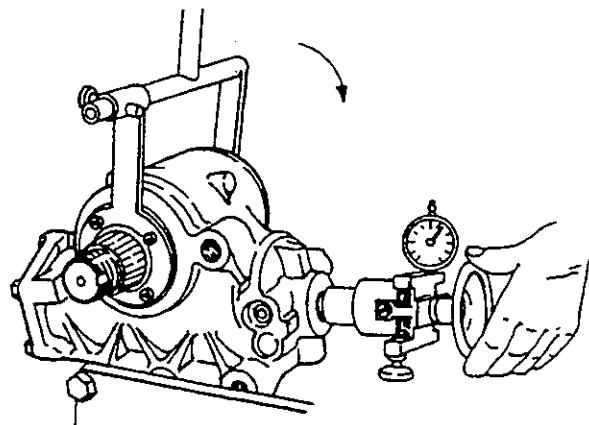

Fig.38
Turn both housing covers (4) with tools [18] and [19], keeping the same angle (in the direction of the arrow), until the required increase in friction torque is obtained (Fig.38).